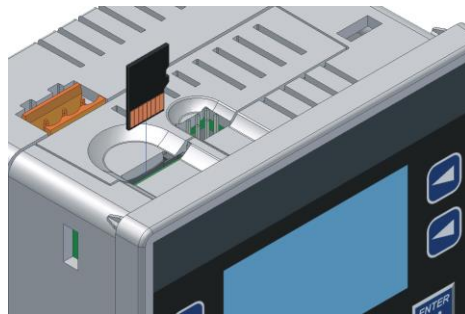

Figure 10.1 - Installing Removable Memory Card
**To install a microSD card:** Align its 8-pin gold edge connector down, facing the front of the XLE/XLT unit as shown in Figure 10.1; then carefully push it all the way into the Memory slot. Ensure that it clicks into place.